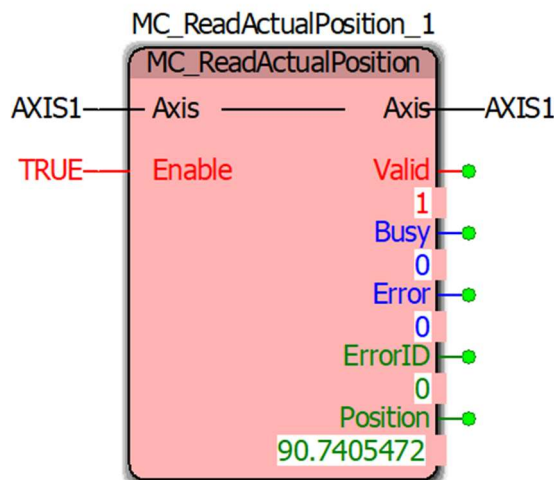

Figure 21: MC_ReadActualPosition in Debug Mode
- Download Changes, Warm Run the program, and switch to Debugging Mode like in Step 1 and it should resemble Figure 21 with the Position shown at the bottom left of the block in degrees